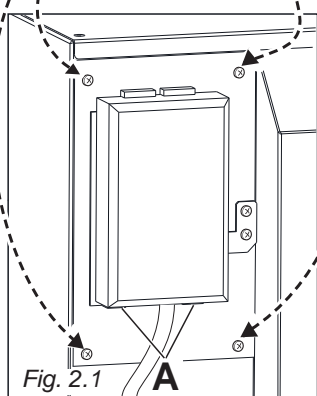

Fig. 2.1
- Unhook the terminal board cover by inserting a screwdriver into the two hooks “A” (fig. 2.1).